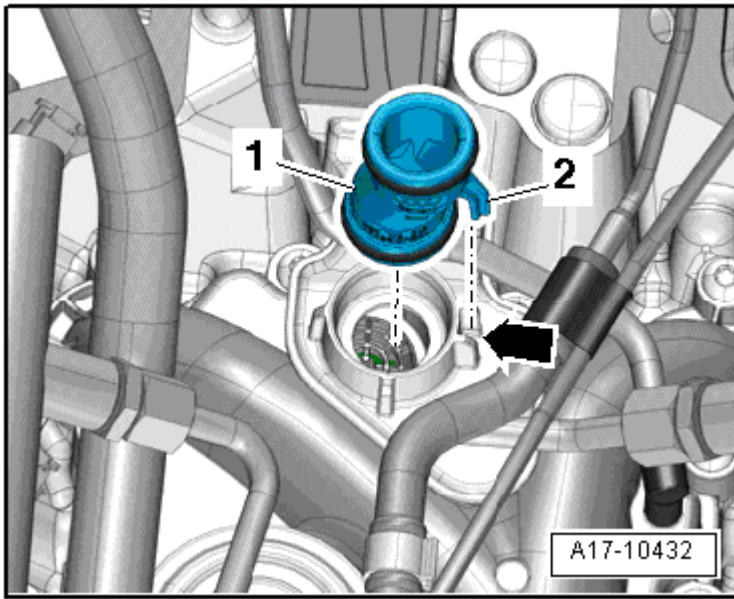

Fig. 6: Identifying Installation Of Crankcase Ventilation Connector
- Installed position, refer to **Fig. 6**